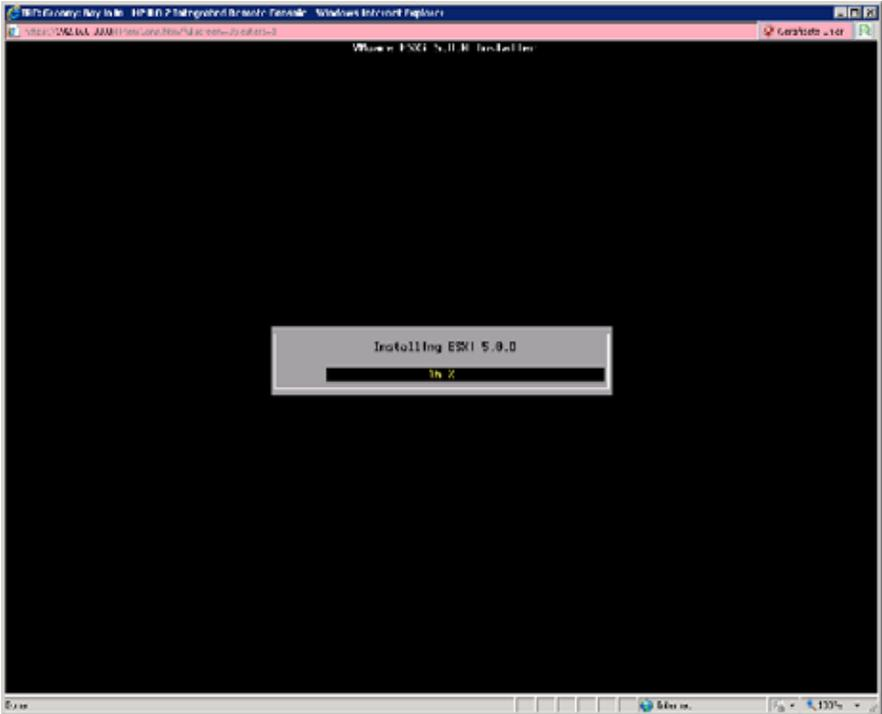

Figure 11 ESXi 5.0 OS and Drivers Loading
Step 10 Press **F11** to confirm that you want to continue the install. When you press **F11**, the OS and Xsigo host drivers are loaded onto the ESXi 5.0 Server, as shown in Figure 11 on page 41.